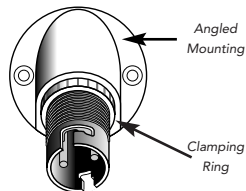

Fig. 4 Angled batten lamp holder having no rose
3. Unscrew the clamping ring, see figure 4. The lamp holder is then free to be withdrawn through the rear of the mounting cover.